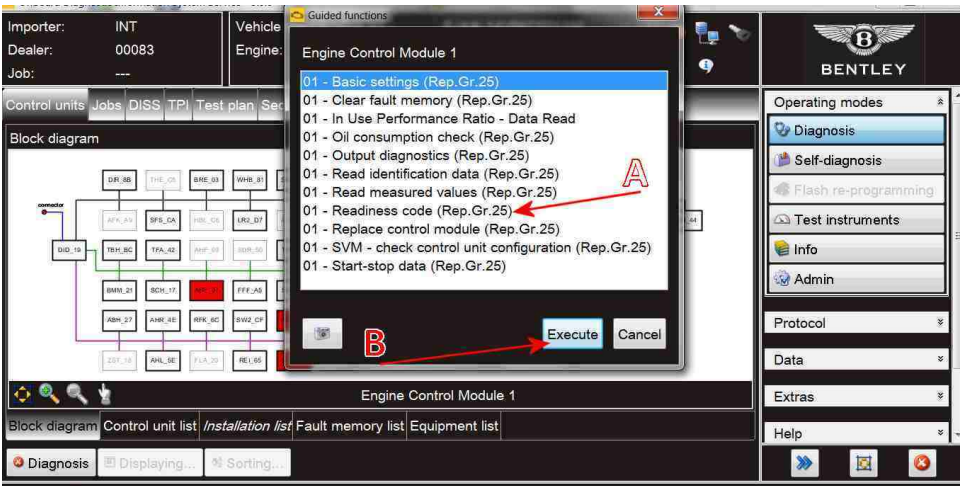

Figure 12
- Select *Readiness code* Figure 12 (Point A)